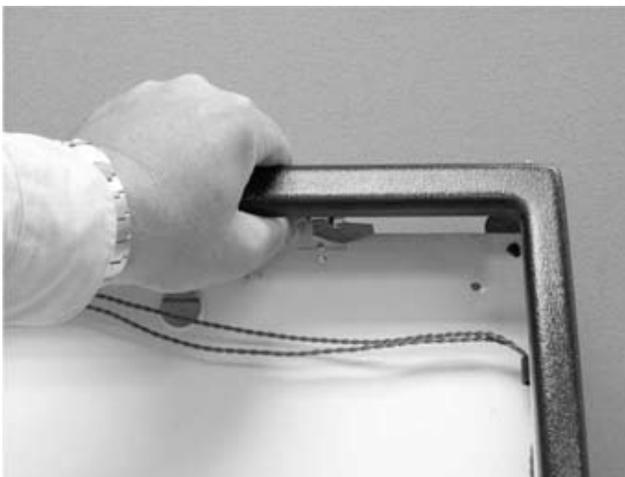

Figure 31.
- C. Remove sockets and wiring attached to them (See Figure 31 through 34).